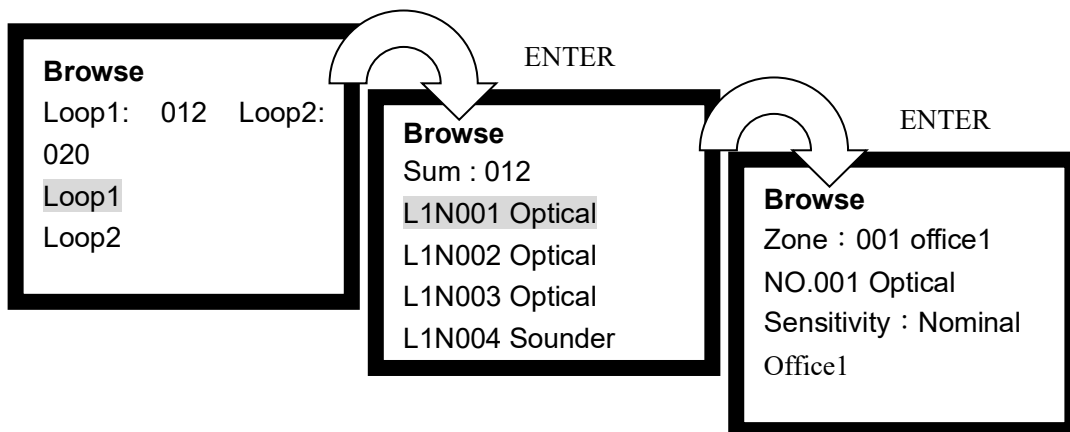

Fig. 6-4
- ✧ Entering number 1 to choose “1. Loop Devices” will enter the screen to view devices by loop, as shown in Fig. 6-4.